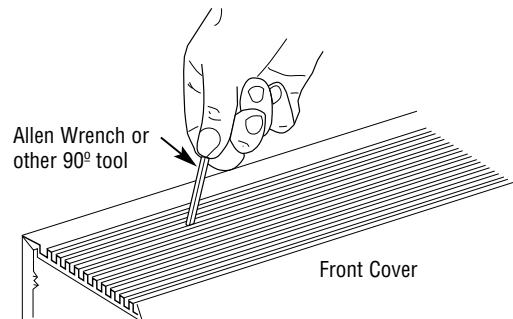

Fig. 6
2. To clean interior of heater will require the removal of the front cover. To remove the front cover, disengage the top rear snap-lock first. Use an "L" shaped tool, such as an Allen Wrench, to lift up under the webs between the back row of slots (See Fig. 6). Start at either end and lift up on the front cover until the tension in the cover pulls the cabinet apart. Continue moving along the length of the heater until the cover comes off.